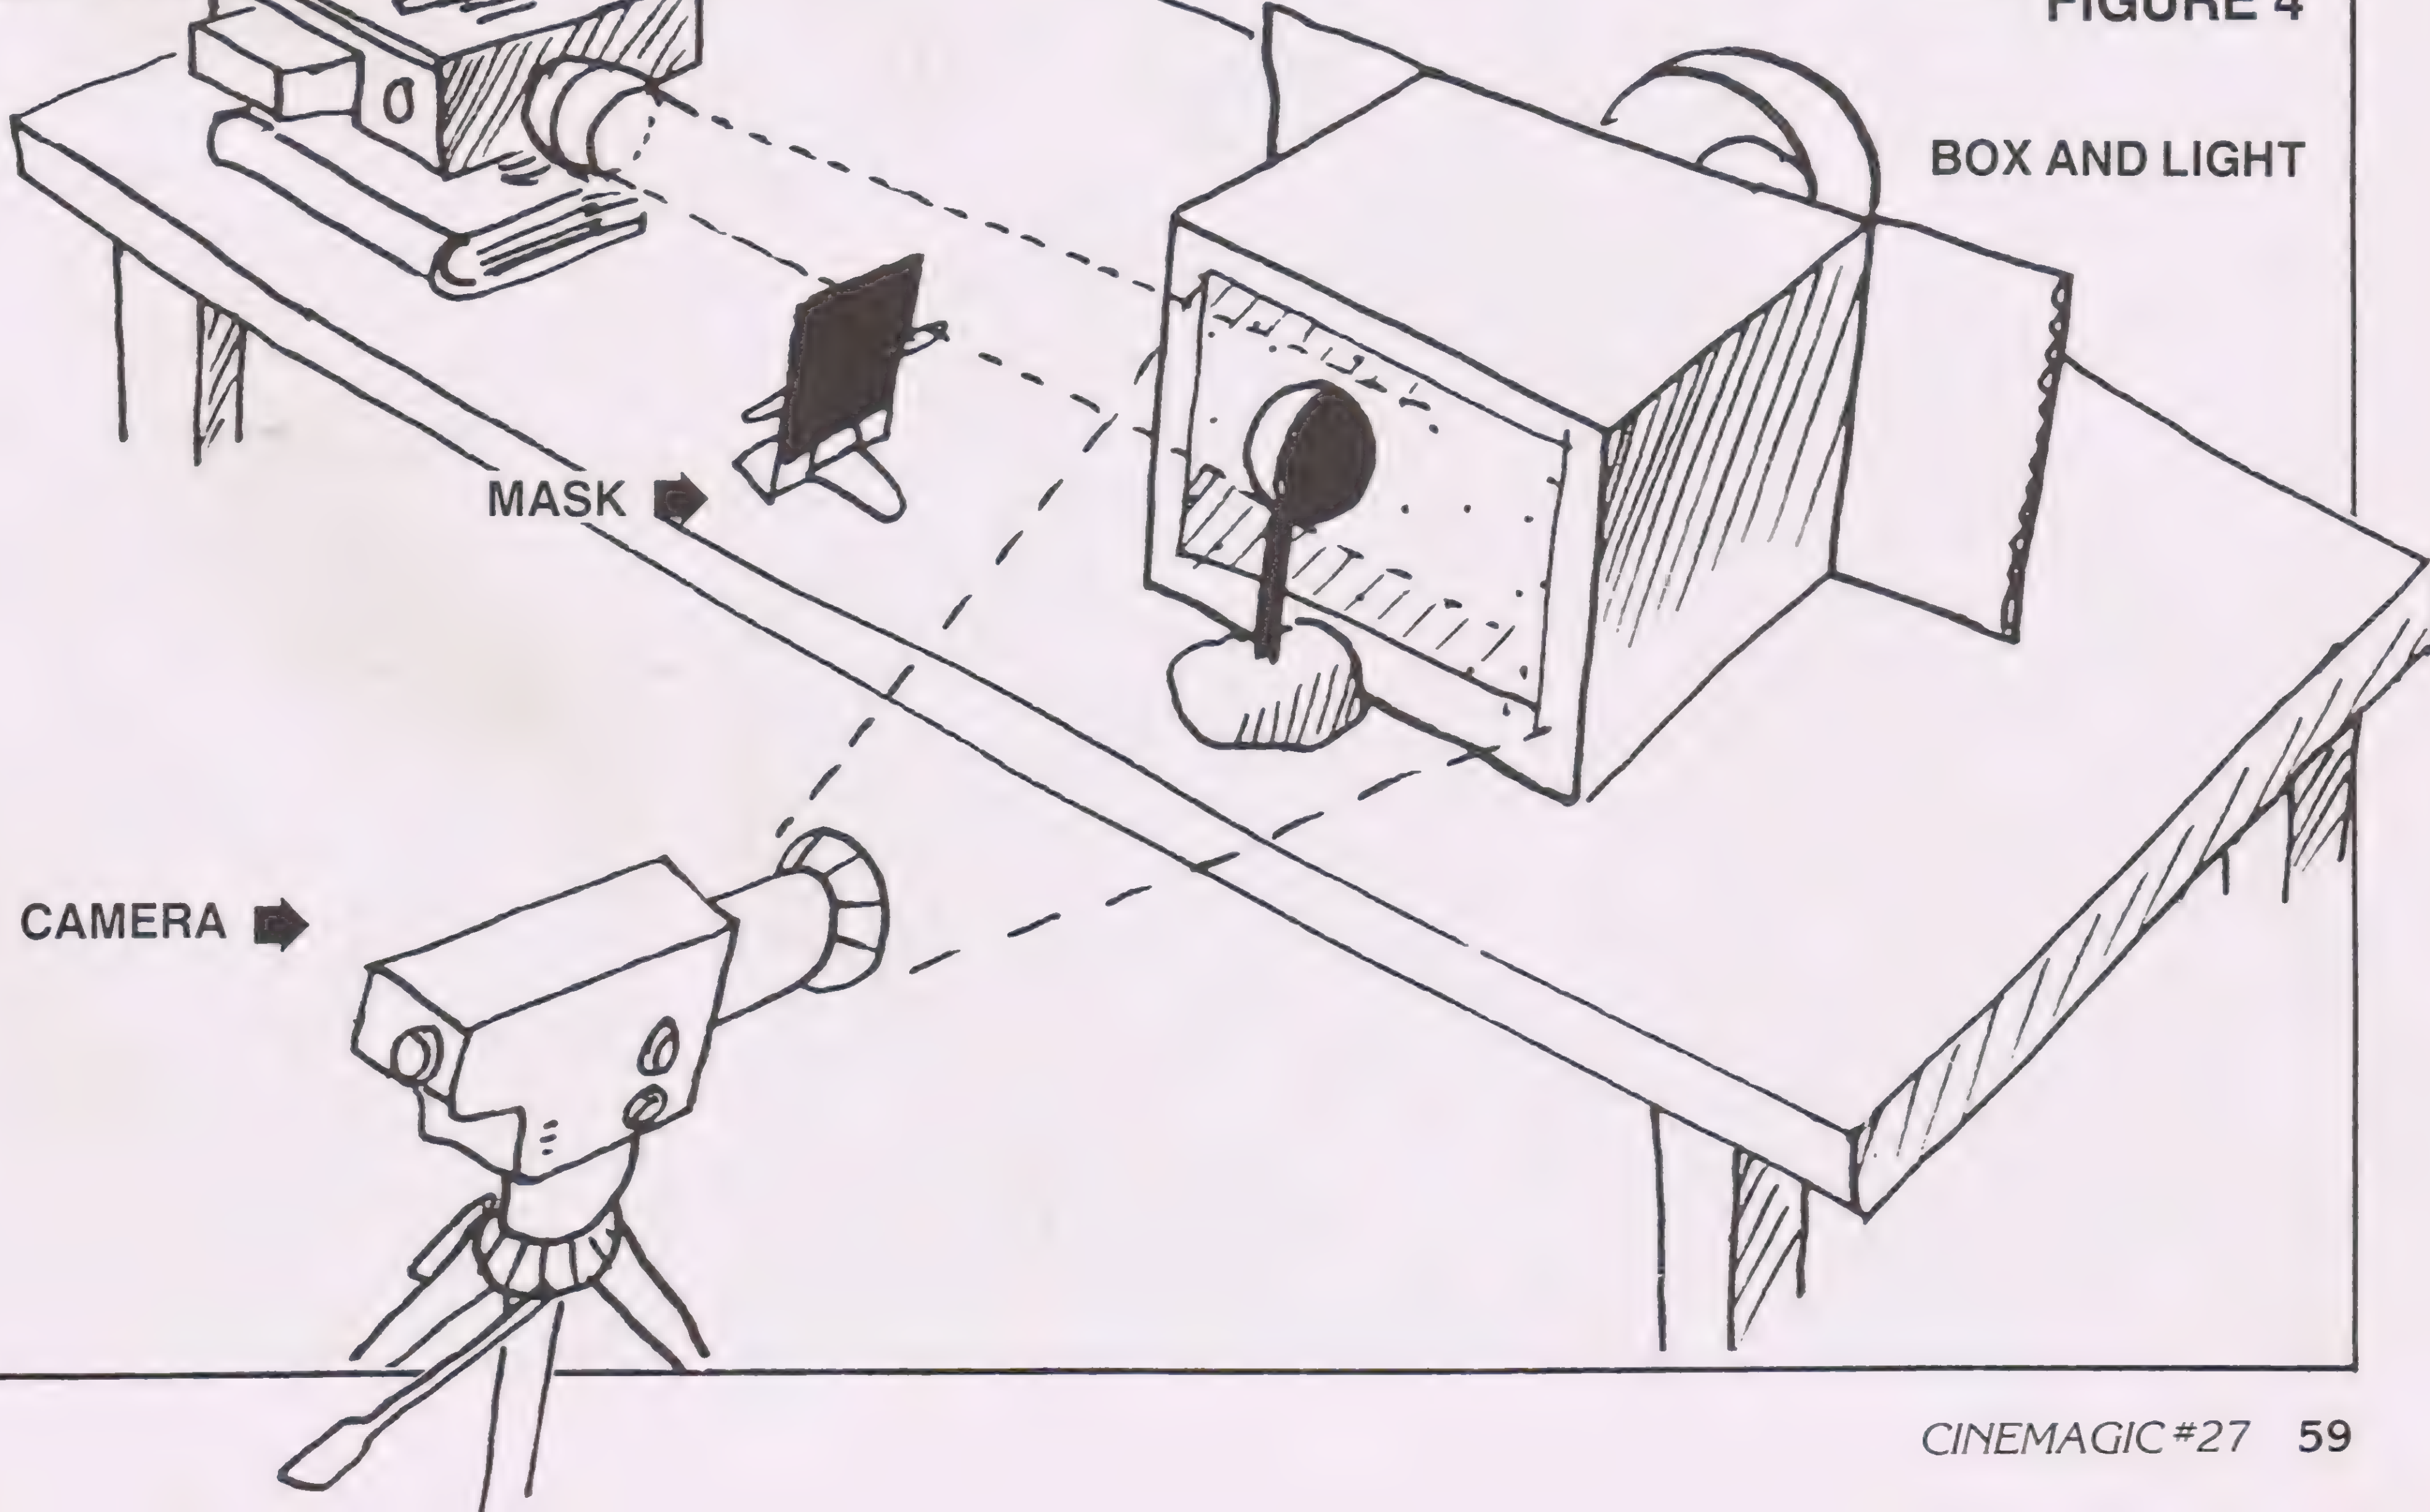
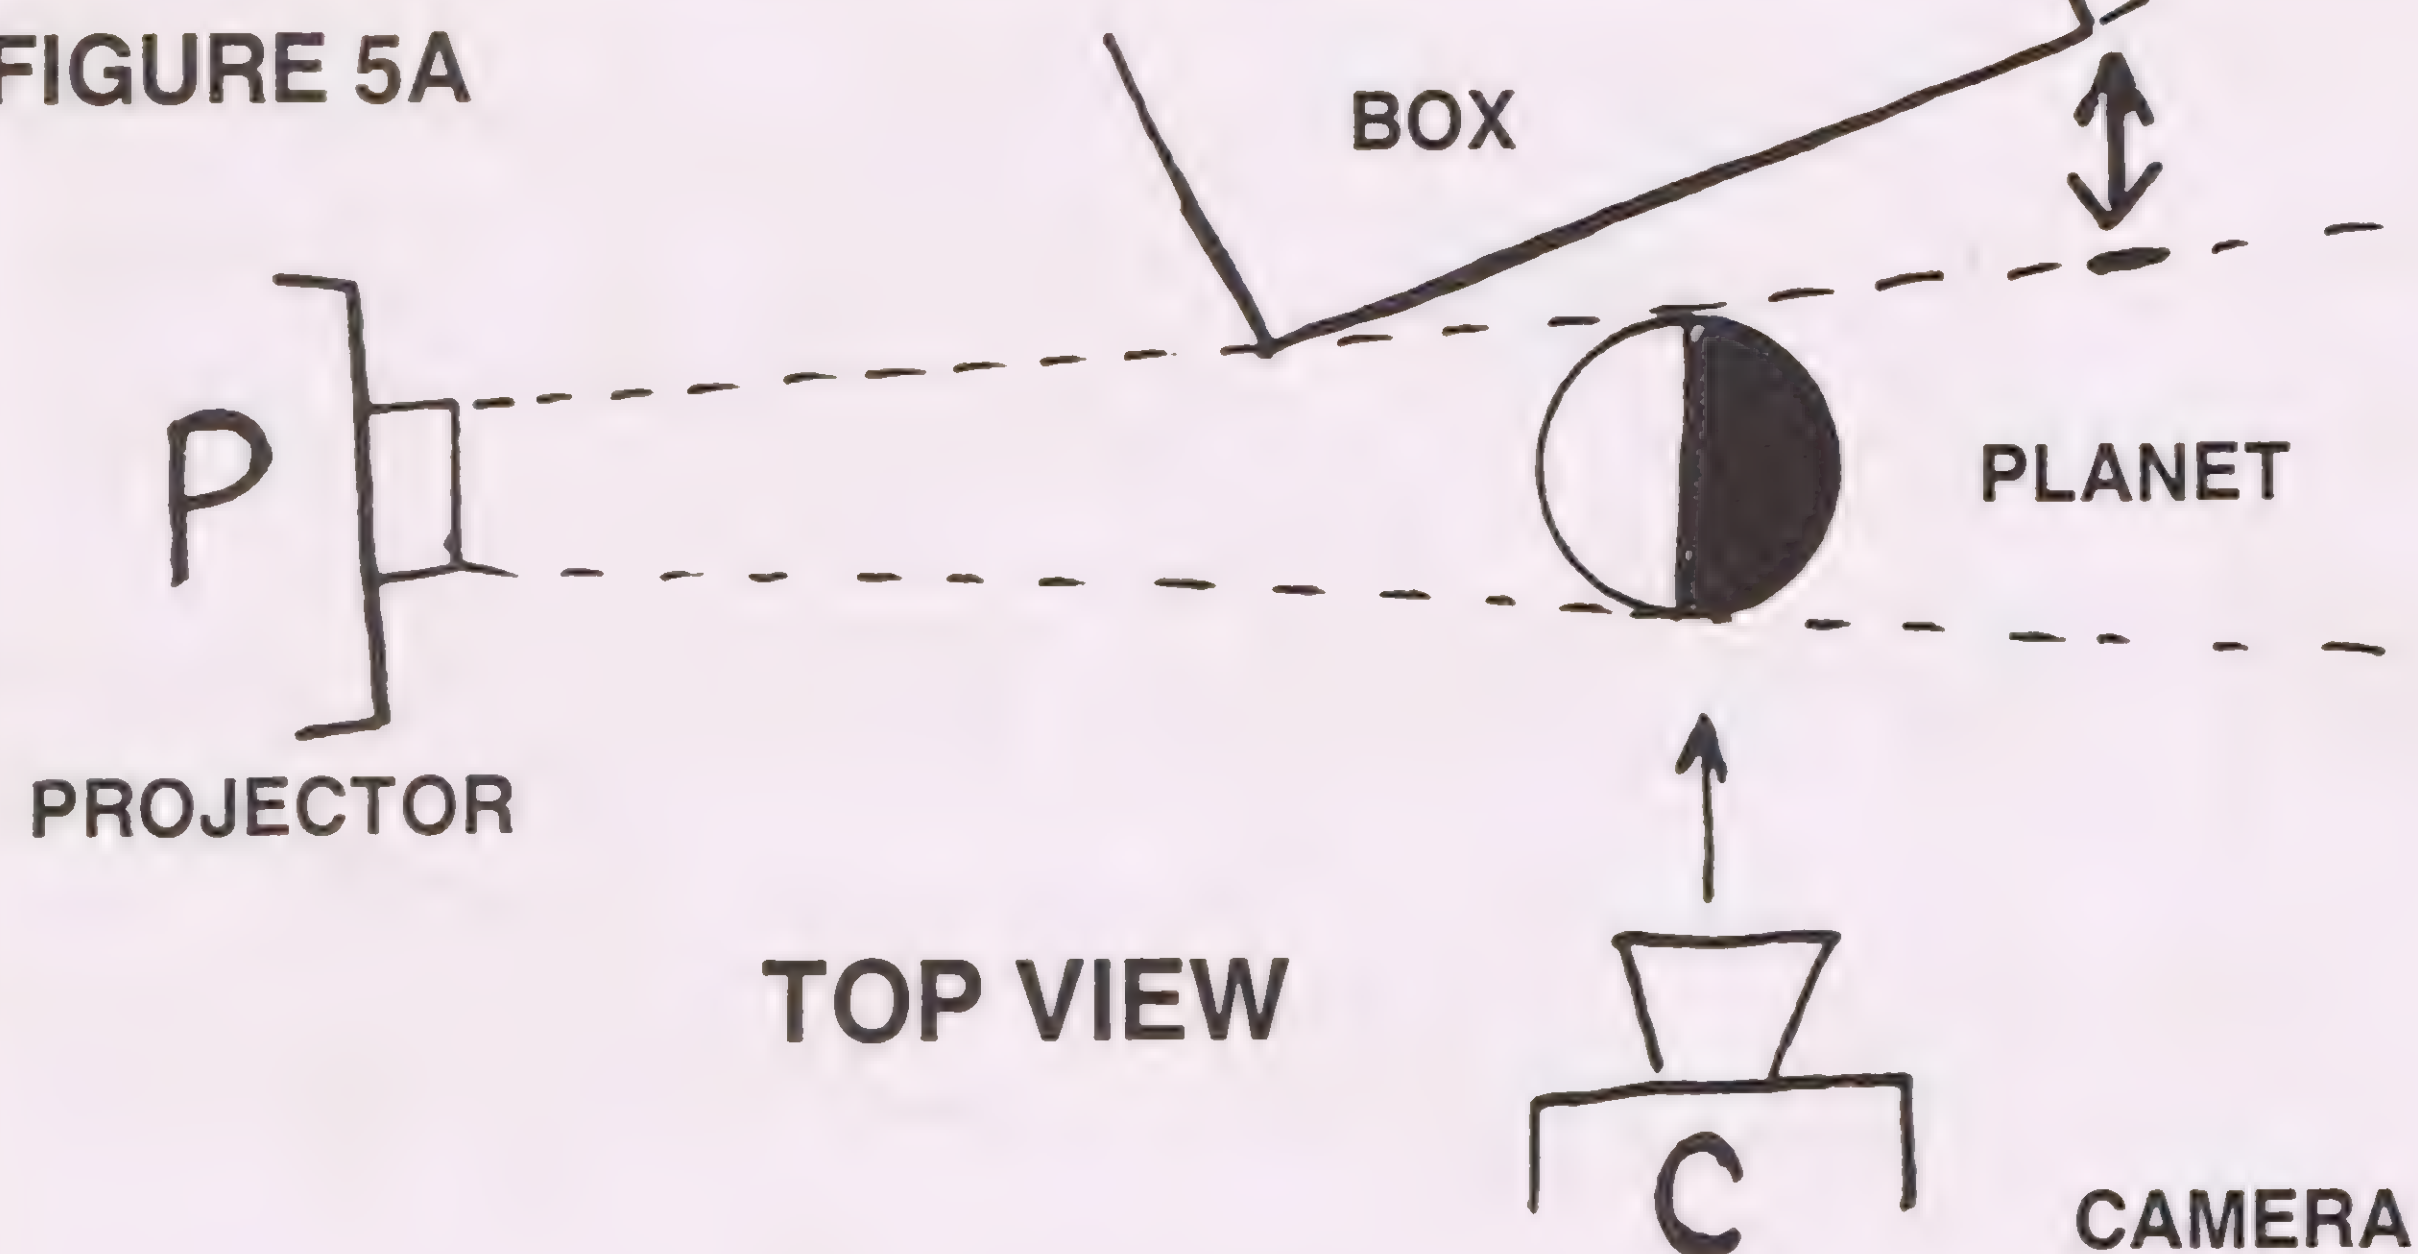

FIGURE 5A
FIGURE 5B
Step 2: You can arrange the lighting for various types of planet images. Figure 5A is a half light/half shadow planet. Figure 5B changes the camera shooting angle slightly toward the projector to give a fuller planet face with a slim quarter shadow. Figure 5C shows the beam mask inserted into the light path to reduce the planet face to only a sliver of light, a planet in "crescent phase."